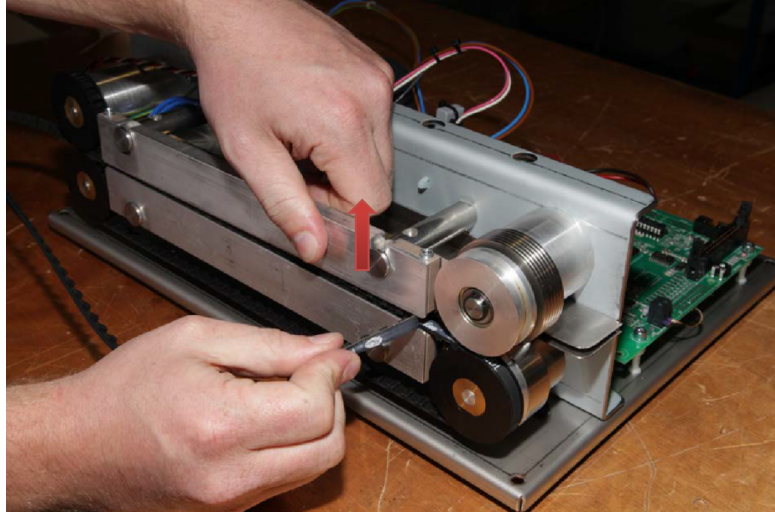

Figure 3
3. Lift the aluminum guidance bar slightly to easily remove the transport belt. **Fig. 3**